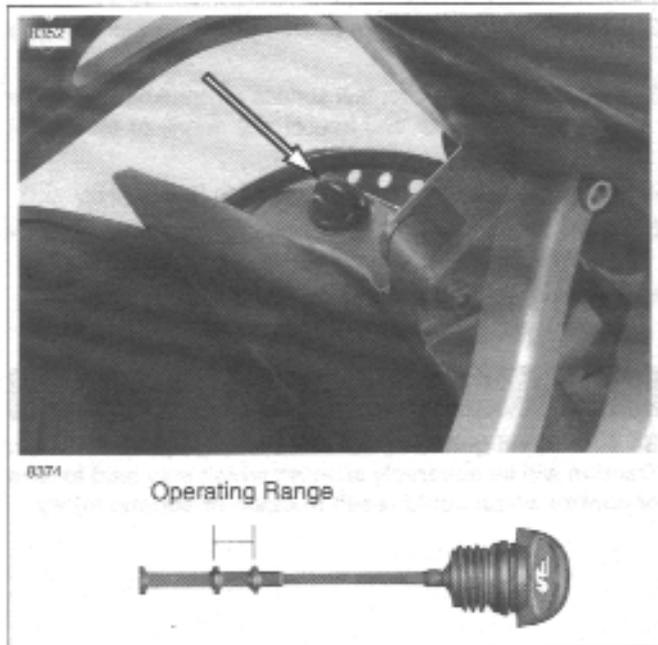

Figure 1-4. Dipstick Location/Engine Oil Level
2. See Figure 1-4. Unscrew and remove dipstick from oil tank/swingarm filler hole. Wipe dipstick clean.
4. See Figure 1-4. Unscrew and remove dipstick and note oil level.
3. See Figure 1-4. Unscrew and remove dipstick from oil fill hole on top of oil tank/swingarm.